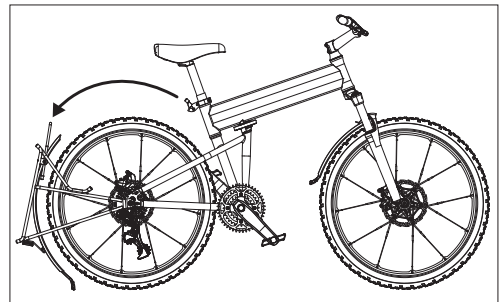

Fig. 21: Rotating RackStand down.
2. The RackStand will rotate down until it hits the ground (Fig. 21).